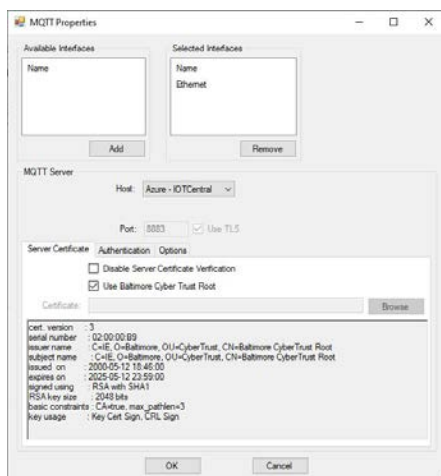

Figure 28-5A
- b. Server Certificate tab. Refer to Figure 28-5A.